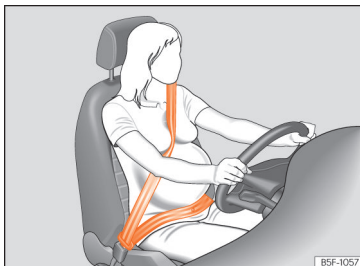

Fig. 24 Position of seat belt during pregnancy.
In the case of **pregnant women**, the seat belt should pass uniformly over the chest and as low as possible through the pelvic area with the strap flat so it does not press down on the abdomen; in addition, it must be used throughout the entire pregnancy » » » **Fig. 24**.
- In the case of pregnant women, the abdominal strap of the seat belt should pass as low as possible across the pelvic area, resting flat and “surrounding” the abdomen >>> Fig. 24.